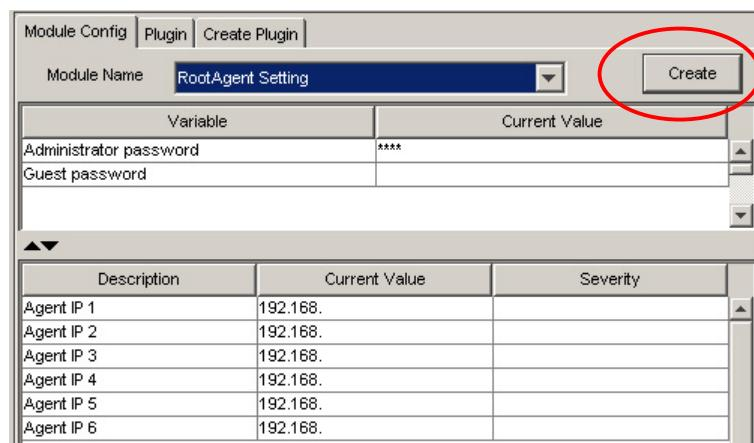
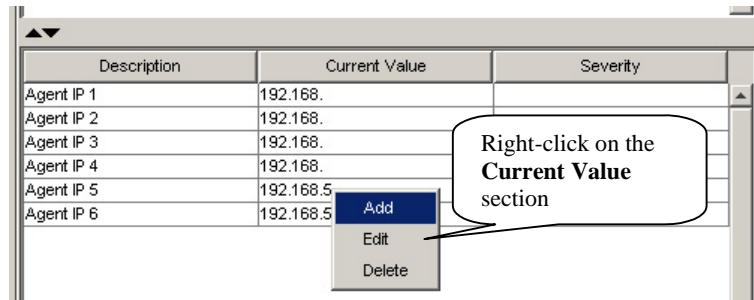

Figure 4-17: Agent List under Root Agent Setting
Figure 4-18: Agent List Right-click Menu
**Step 2.** To add or delete RAID Agents, click the *Create* button next to the **Root Agent** pull-down list to open an **Add Monitor Controller** window. (See *Figure 4-17*) The same command can also be activated by right-clicking on the agent list under **Current Value** section. (See *Figure 4-18*)